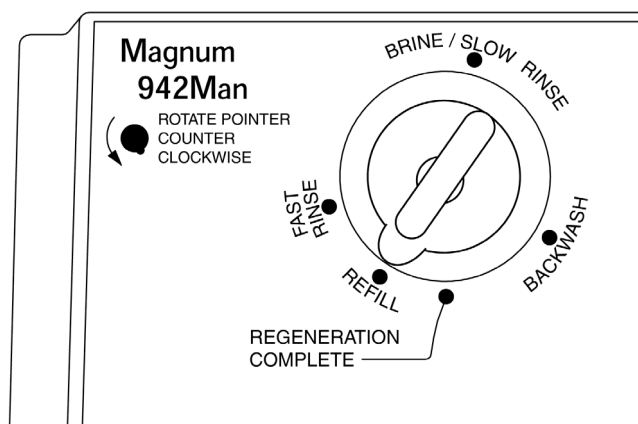

Figure 5.4
5. When the fast rinse is complete, move the indicator knob **COUNTERCLOCKWISE** to the **Refill** position (Figure 5.4). Determine the correct refill time\* from Table 5.1 below. The indicator knob should remain in the **Refill** position for the time indicated in the table.